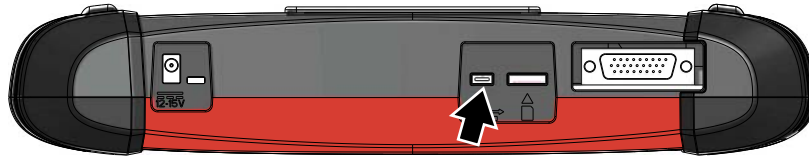

Figure 4-12
- **SOLUS Ultra**—mini A USB port on top of the Diagnostic Tool (Figure 4-12).